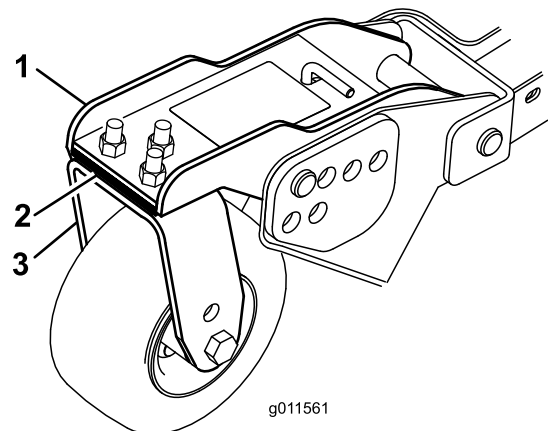

Figure 29
Rotate blade of each spindle until the ends face forward and backward. Measure from the floor to the front tip of the cutting edge. Adjust 1/8 inch shims on front castor arm(s) to match height of cut to decal (Figure 29). For the outside blade spindle only, refer to Adjusting the Cutting Unit Pitch.
- If the inside edge of the side cutting unit is too high relative to the outside edge of the front cutting unit, remove one 1/8 inch shim from the bottom of the front inside castor arm on the side cutting unit (Figure 29). Recheck measurement between outside edges of both side cutting units and inside edge of side cutting unit to outside edge of front cutting unit.